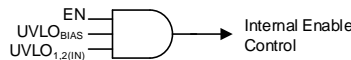

Figure 41. Simplified Turnon Control
Controlling when a single power supply turns on can be difficult in a power distribution network (PDN) because of the high power levels inherent in a PDN, and the variations between all of the supplies. As shown in Figure 41 and Table 2, the LDO turnon and turnoff time is set by the enable circuit (EN) and undervoltage lockout circuits ( $UVLO_{1,2(IN)}$  and  $UVLO_{BIAS}$ ).